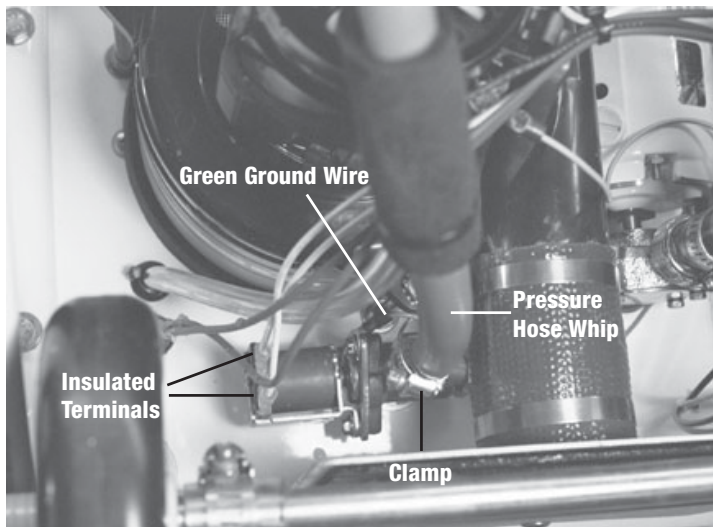

Figure 16
3. Pull both insulated terminals off solenoid (fig. 16).
6. Loosen clamp and remove pressure hose whip (fig. 16).
7. Unscrew and remove green ground wire (fig. 16).